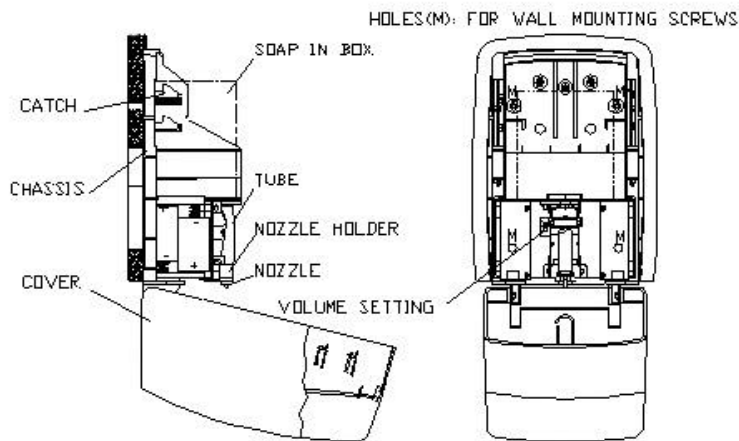

FIG. 3 PARTS DIAGRAM
- Keep the cover fully open. (see Fig.3).
4. Volume Setting (see Fig. 3)
The dispenser ejects approximately 1c.c. of soap per cycle. A switch with three setting positions (1,2,3) allows the selection of one, three or five cycles per actuation (see right view of Fig. 3). As shipped the switch is set for one cycle operation. Do not load soap at this time. Now close the cover to test the unit. Note: the unit will activate as you close the cover. With cover closed, place your hand under the bottom of the unit. The unit should now activate for one, three or five cycles in accordance with the volume switch setting.
Open the dispenser cover. Remove perforated portion of box to expose hose attachment. Place the soap container in soap compartment with hose forward. Pull hose attachment out and insert flange at the nozzle end of hose into the slot of the nozzle holder (Fig. 3). Note: as cover is closing the unit will cycle but soap will not dispense unless cover is fully closed.
Use your index finger to approach the latch release bar (Fig. 3) from the side of the unit. Pull down release bar while keeping hand away from the centrally located hand-sensing elements. Releasing the latch in this manner will avoid needless discharge of soap.